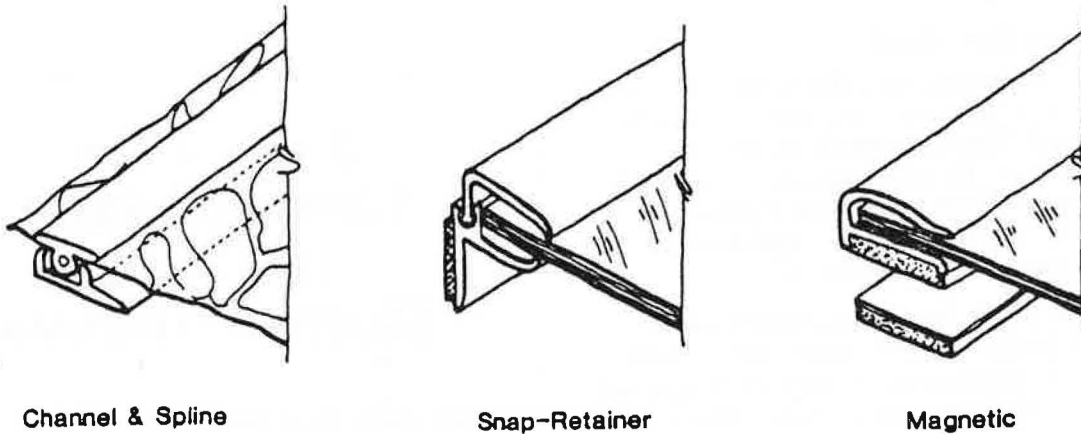

Figure 3. Typical Plastic Framed Kits
- *Plastic Framed Kits:* With a storm window kit, purchased at most home improvement or hardware stores, assembly is simplified since all the material and directions are at hand. Kits are most often intended for indoor installation with either rigid or flexible plastic glazing. Frames are typically made of vinyl and come in several earthtone colors. Similar to commercial magnetic strip units, they consist of a base strip that attaches permanently to the window and a cover strip that holds the glazing in place. Many designs are available, some of which are shown in Figure 3.